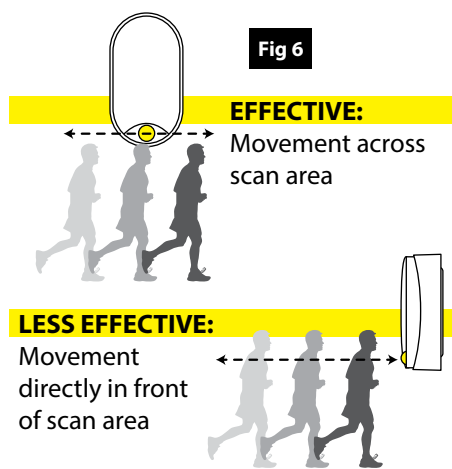

Fig 6
- 02) When the fitting is mounted, the sensor will detect in the area in front of the fitting. Have another person move across the centre of the area to be scanned and slowly adjust the PIR sensor until the unit senses the presence of the moving person, causing the lamp to switch on. (Refer to Fig. 6 above).